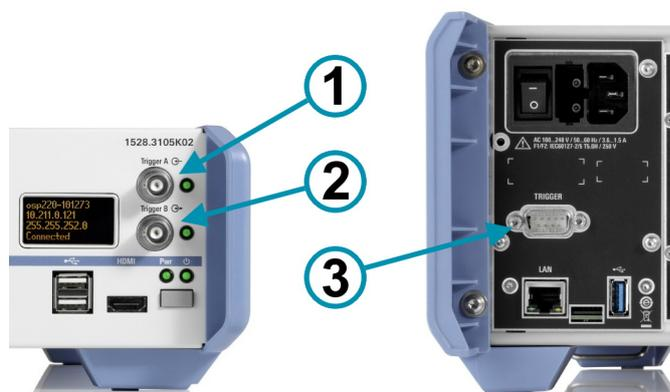

Figure 5-42: Trigger connectors
Trigger activity is indicated by the status LEDs next to the BNC connectors (labeled (1) and (2) in **Figure 5-42**). The LEDs have the following meanings: